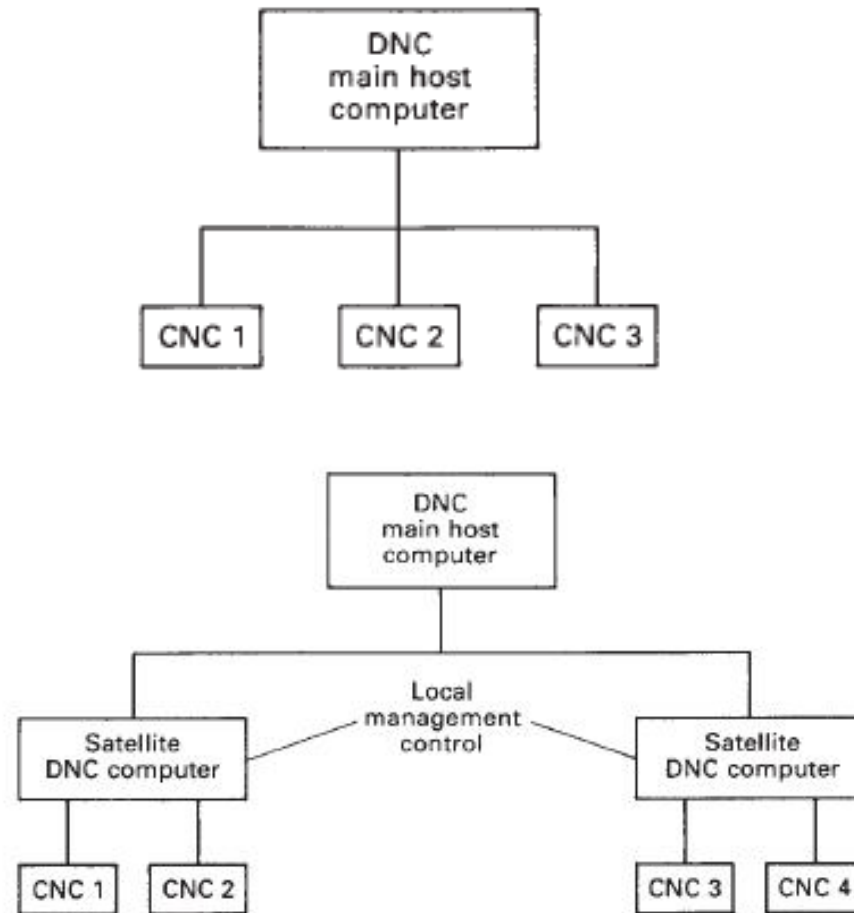

FIGURE 1.5 Distributive numerical control.
6. Several DNC systems can also be networked to form a large **distributive numerical control** system. Refer to Figure 1.5.